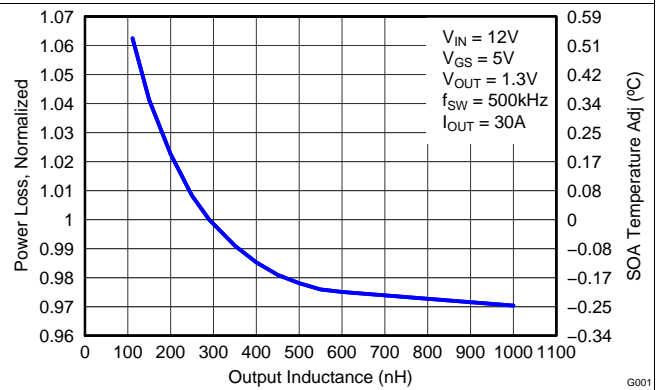

Figure 8. Normalized Power Loss vs Output Inductance
- Normalized Power Loss for output inductor ≈ 1.02 (Figure 8)
- SOA adjustment for output inductor $\approx 0.2^\circ\text{C}$ (Figure 8)